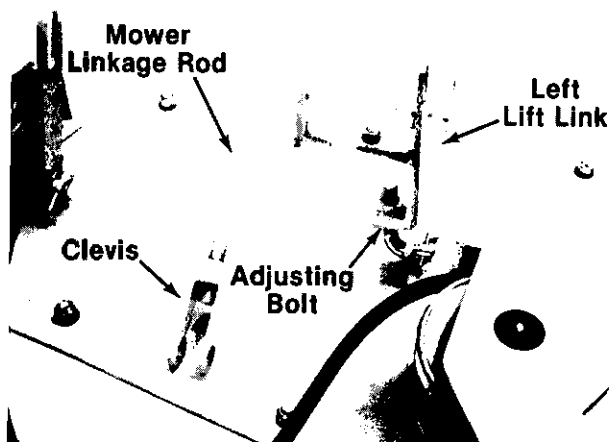

FIGURE 16.
1. Disconnect the mower linkage rod from the front foot rest support bracket by removing the quick attachable pin and rod pin through the clevis. See figure 16.
2. Adjust the clevis on the end of the mower linkage rod either up or down, depending on which measures high. See figure 16.
NOTE: Figure 16 is shown with deck removed from the lawn tractor for clarity purposes, only.
1. Remove the klick pin from the adjusting bolt and remove the left lift link assembly from the deck. See figure 16.